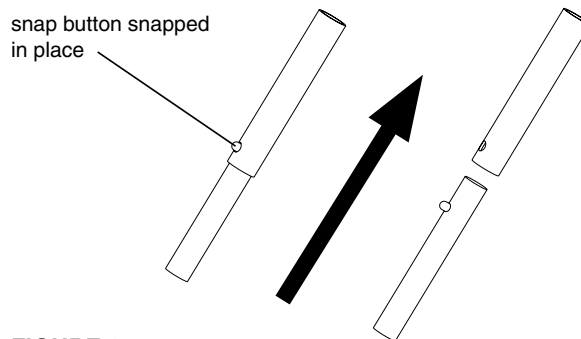

FIGURE 9
8. Assemble the two sets of door spreader poles (69356 & 69357) by sliding the male half into the female half and snapping in place with snap button. **SEE FIGURE 9.**
- Unzip door and move to the inside of shelter and extend the (3) top cross brace poles and snap into place. Place back spreader pole with stud, both roof spreader poles and both door spreader poles into position by snapping C-clip over cross brace poles. For back spreader pole, simply place end with stud into pre-drilled hole in back lip of sled. Attach all Velcro loops to cross brace poles. **SEE FIGURES 9 & 10.**